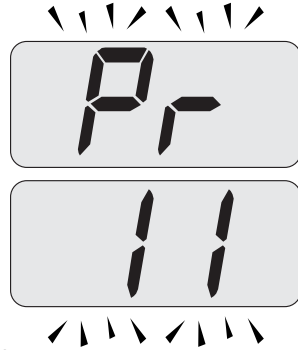

Fig. 7.26
- Scroll the various parameters using keys 10 or 11 until the letters **Pr** that alternate with code **11** are displayed on the LCD display, indicating that "parameter 11"(Fig. 7.26) has been activated.
- Press keys 9 and 10 (Fig. 7.24) at the same time to exit without changing the value (return to the parameters list Fig. 7.26)